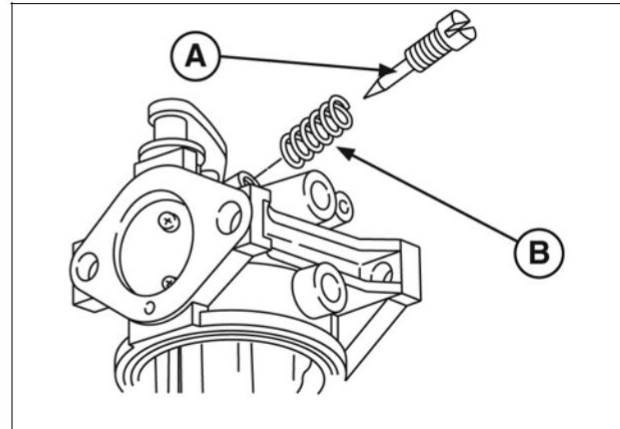

Figure 20
4. Install idle mixture screw (A, Figure 20) and spring (B).